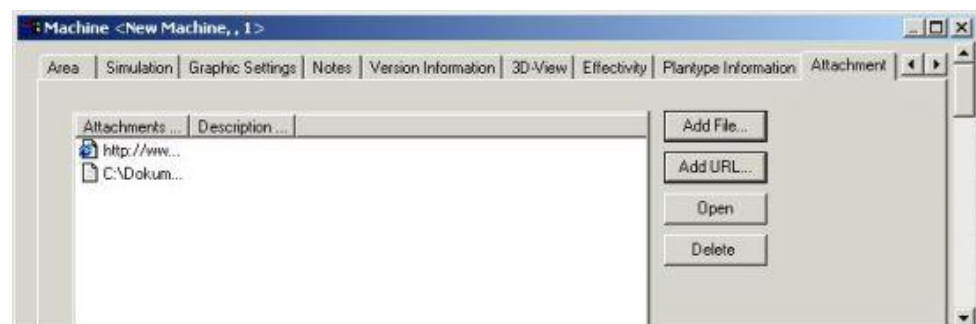

Figure 104: Value-Adding Resource – Attachment Tab
- 3) Click **OK**. The entry can be shown in the **Attachment** dialog. Double-click the entered address designation or click Open to view the required page. A displayed page, for example, may include an Intranet directory. *Please refer to the Figure 104.*